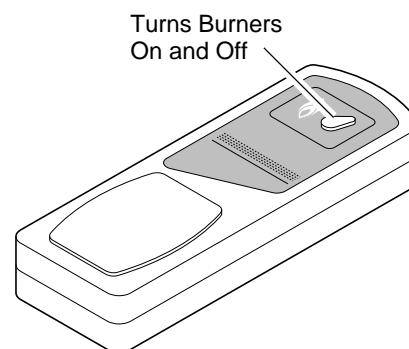

Figure 29 - GHRC Series Hand-Held Remote Control Unit
- Press the ON/OFF button to turn the burner on and off (see Figure 29). When turning burner off, the pilot will remain lit.